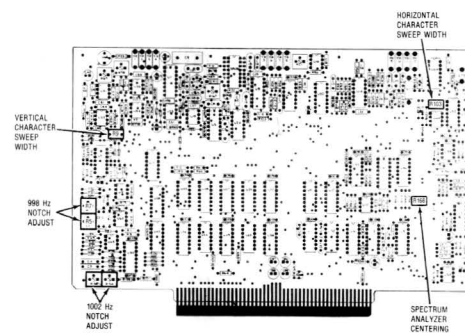

Figure 5-14. Scope/DVM Control Alignment Points
3. Adjust the Spectrum Analyzer Centering Potentiometer on the Scope/DVM Control Board (Figure 5-14) so that the spectral line on the CRT is centered about the center graticule line.
3. Short the center conductor of the DVM input jack on the front panel to ground. Connect an external DVM between TP2 and TP9 of the Scope DVM Control Board (Figure 5-14).
3. Adjust the Horizontal Character Sweep Width Potentiometer on the Scope/DVM Control Board (Figure 5-14) so that the right-hand edge of the CRT character display is approximately 4.2 graticule divisions to the right of the graticule center line.
4. Adjust the Vertical Character Sweep Width Potentiometer on the Scope/DVM Control Board (Figure 5-14) so that the bottom edge of the CRT display is approximately 3.3 graticule divisions below the graticule center line.
6. Alternately adjust the 998 Hz notch potentiometers on the Scope/DVM Control Board (Figure 5-14) to null the distortion reading on the CRT. A reading less than 0.5% should be obtained.
8. Alternately adjust the 1002 Hz notch potentiometers on the Scope/DVM Control Board (Figure 5-14) to again null the CRT distortion reading. A reading less than 0.5% should be obtained.